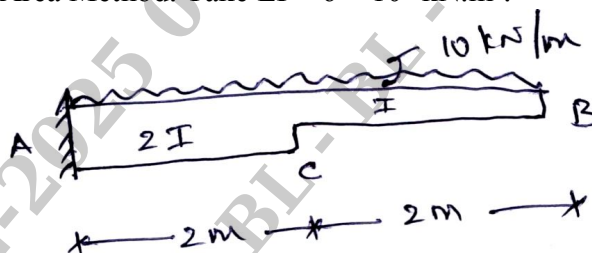

Fig.Q5(b)
b. Determine the slope and deflection at the free end for the cantilever beam shown in Fig.Q5(b) by Moment Area Method. Take $EI = 6 \times 10^3 \text{ kN.m}^2$.